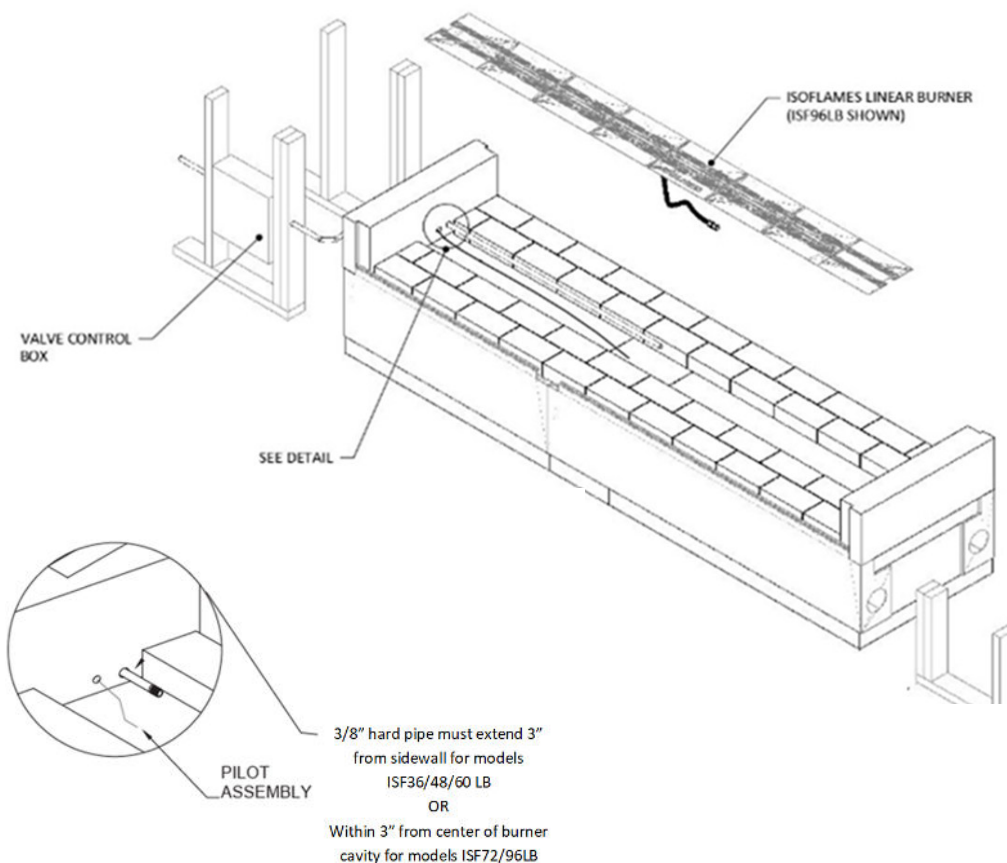

FIGURE 47
- 4) The 48", 60", and 72" Maximus Linear See-Thru fireplaces (82L48ST, 82L60ST, & 82L72ST) will require the ISF36/48/60LB (N/P) (respectively): Gas supply piping for these models shall terminate not less than 3" from sidewall. (**Figure 47**)
- 5) The 96" and 120" Maximus Linear See-Thru fireplaces (82L96ST & 82L120ST) will require the ISF72/96LB (N/P) (respectively): Gas supply stub piping for these models shall terminate within 3" from center of the cavity. (**Figure 47**)